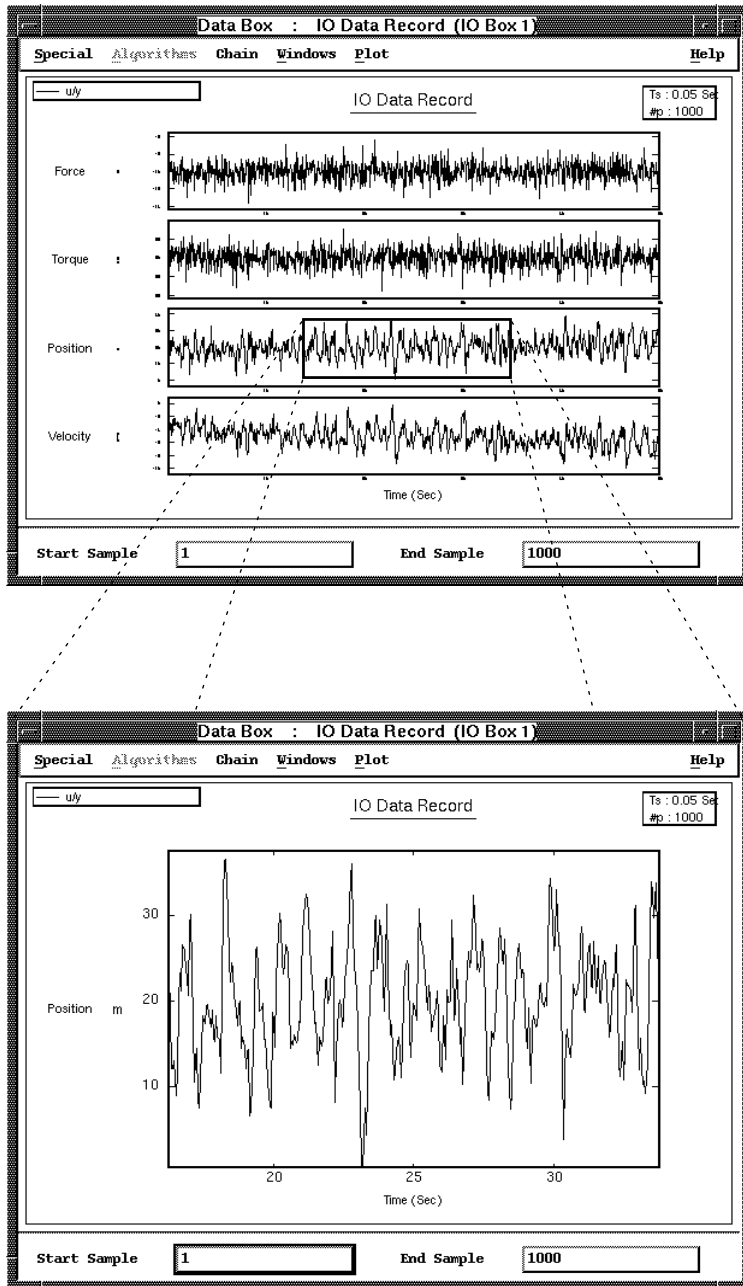

Figure 3.15 Original plot with lasso and zoomed plot.
- **Zoom in on a plot:** Zooming involves using a selection box, or “lasso” to select the area you want zoomed. To lasso some data, place the cursor near the data. Hold down the <Ctrl> key, click and drag the left mouse button until the data is surrounded by the box. Release the mouse and the data in the box will appear in the zoomed plot. To go back to the original view follow the same procedure as when displaying a subplot. Figure 3.15 illustrates the principle of data zooming with a lasso.